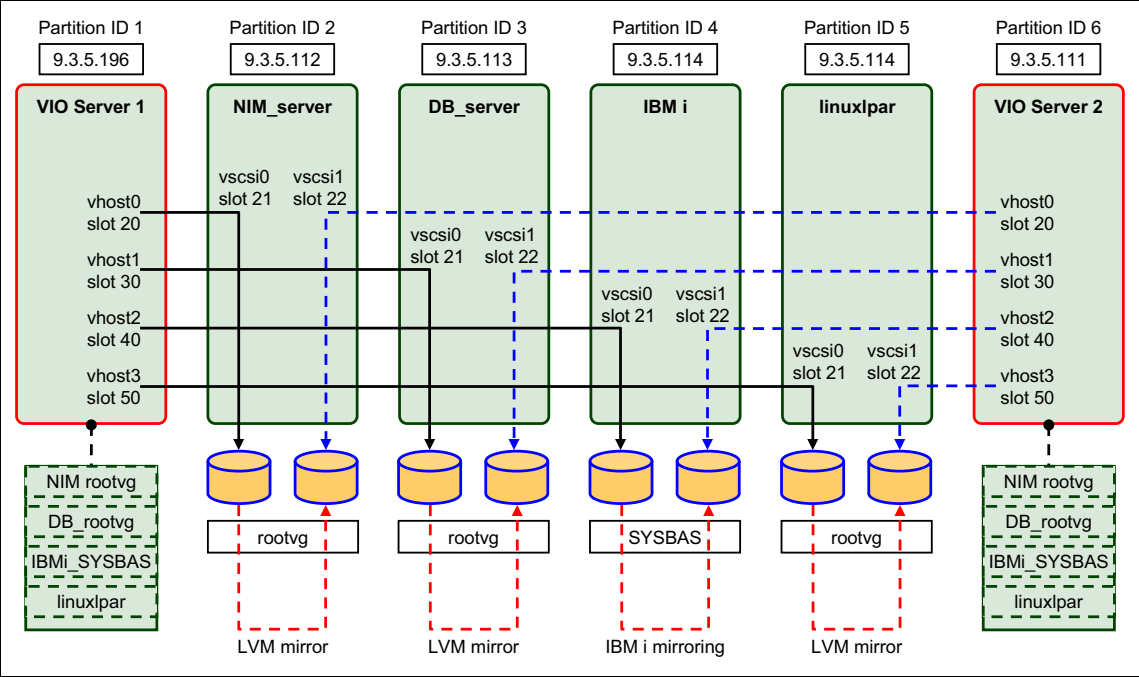
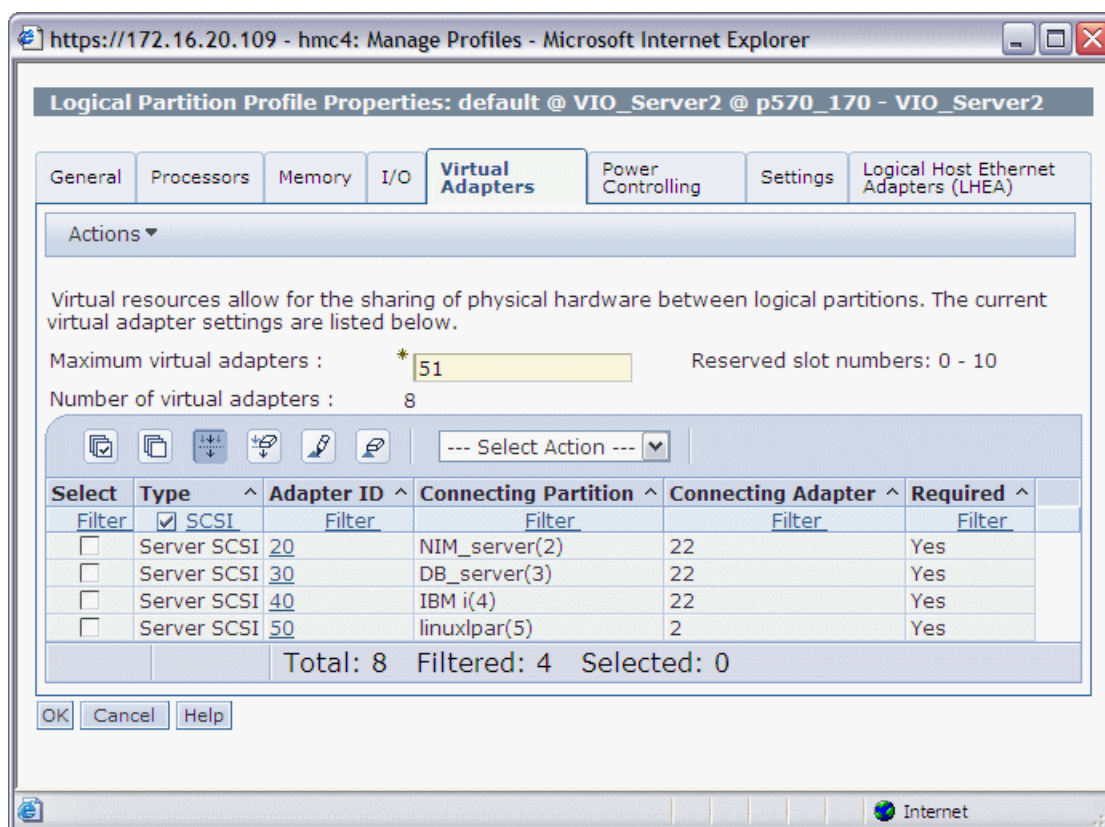

Figure 16-39 Redundant Virtual I/O Server client mirroring scenario
Figure 16-41 Virtual SCSI adapters for VIO_Server2
This scenario shows how to set up a highly available virtual SCSI or virtual Fibre Channel (VFC) configuration using mirroring in the client partition. In our example shown in Figure 16-39 each client partition is configured with two virtual SCSI adapters. Each of these virtual adapters is connected to a different Virtual I/O Server and provides virtual SCSI LUNs to the client partition.
4. Create the client partitions as shown in Figure 16-39 on page 534 following the instructions in “Creating a Virtual I/O Server” on page 312. Each client partition needs to be configured with two virtual SCSI adapters as shown in Table 16-7 on page 536. Figure 16-41 shows the virtual SCSI adapter configuration for VIO_Server2 on the HMC.
Tip: In Figure 16-41 there is a filter applied to the *Type* column so that only the virtual SCSI adapters are shown.